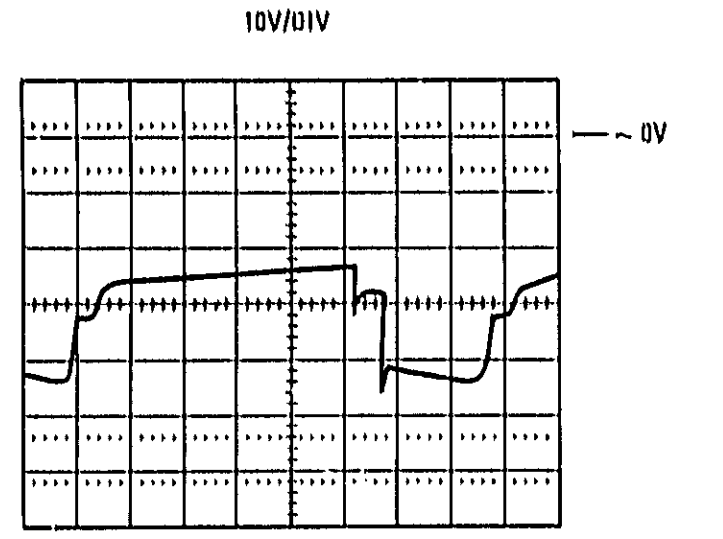

Figure 8-46. Emitter/Coil Voltage (A6TP12)
1. Check the YO DRIVE V (TP14) for the waveform shown in Figure 8-46. If this waveform is correct, then the Sweep and Interrupt circuits are working properly, and troubleshooting should continue with the YO Current Driver section below.
3. Check TP16. This voltage should track the YO DRIVE V (Figure 8-46). If it does not, troubleshoot U24, Q1, Q2, A9R1, and A9Q1.